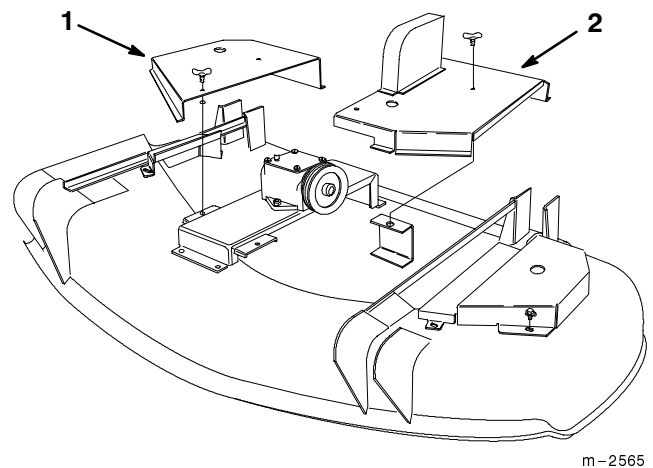

Figure 23
1. Turn the wing head studs holding the left and right center deck covers 1/4 turn counterclockwise and remove both center deck covers (Fig. 23).
6. Reinstall both center deck covers, then turn the wing head studs 1/4 turn clockwise to secure the center covers to the deck (Fig. 23).